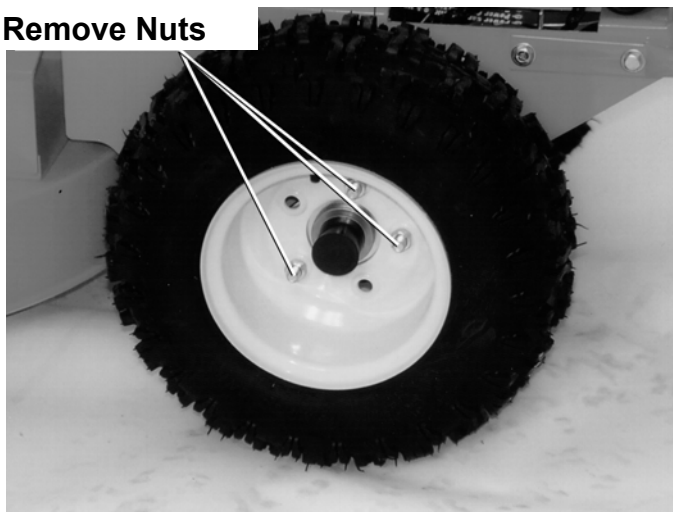

Figure 25
2. Remove the three nuts and slide the wheel off. (*Figure 25*)